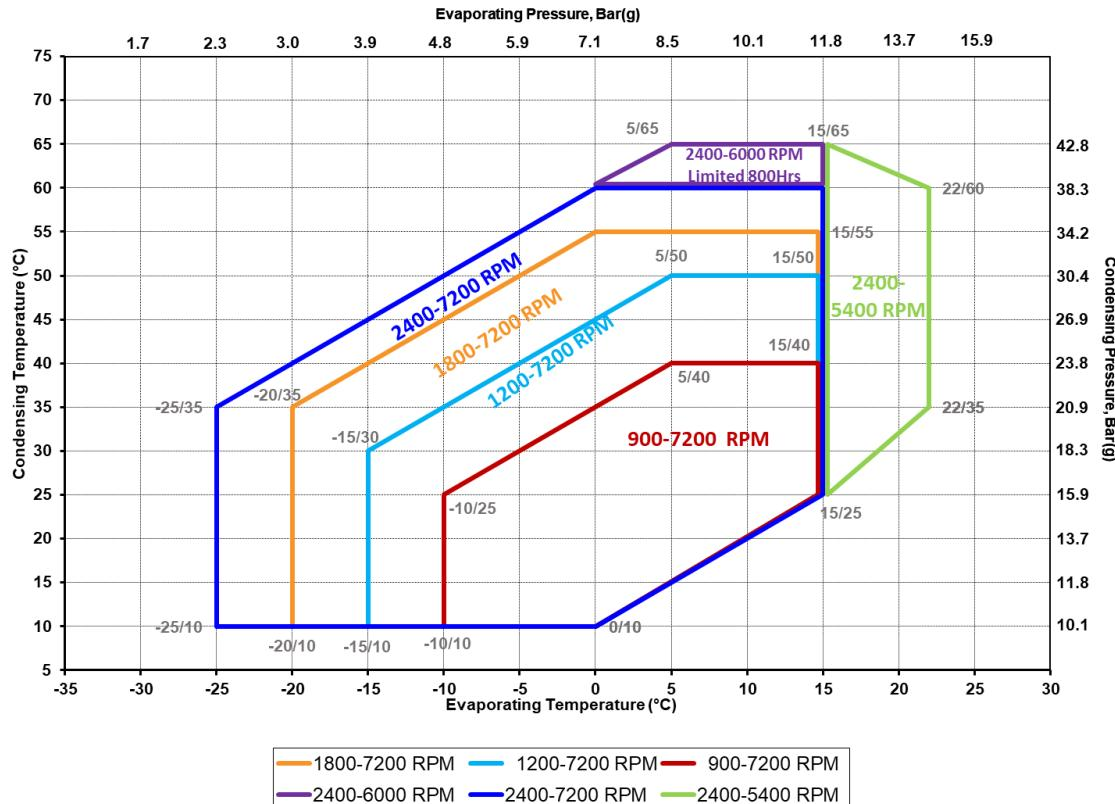

Figure 3: Operating envelope for YPV030/038 compressors with R32
The operating envelopes of the YPV030/038 compressors depend upon the running speed. The envelope limitations are mainly related to lubrication and power limitation. They are shown in **Figure 3** below.
- The qualified application envelope will change with the compressor speed. At all operating conditions the minimum and maximum speed limits according to **Figure 3** have to be respected. With changing operating conditions, the speed limits have to be determined by linear interpolation between the limits given in **Figure 3** – also see speed limits animation in Select software available at www.climate.emerson.com/en-gb.